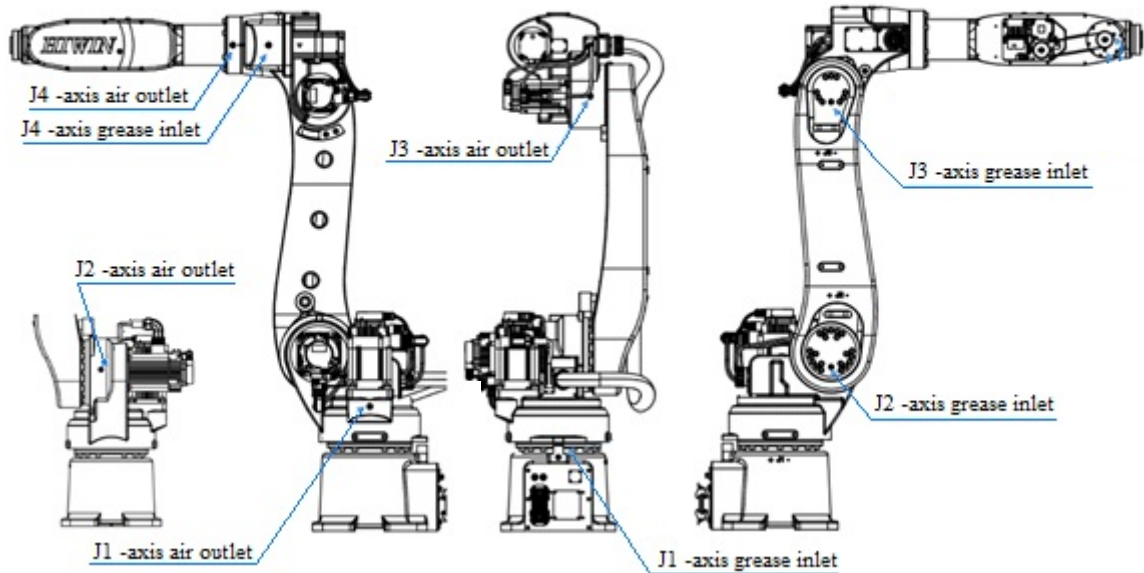

Figure 5-8 Lubrication and grease inlet/outlet positions
- ⊙ The grease inlets and the outlet vents are shown in Figure 5-8.